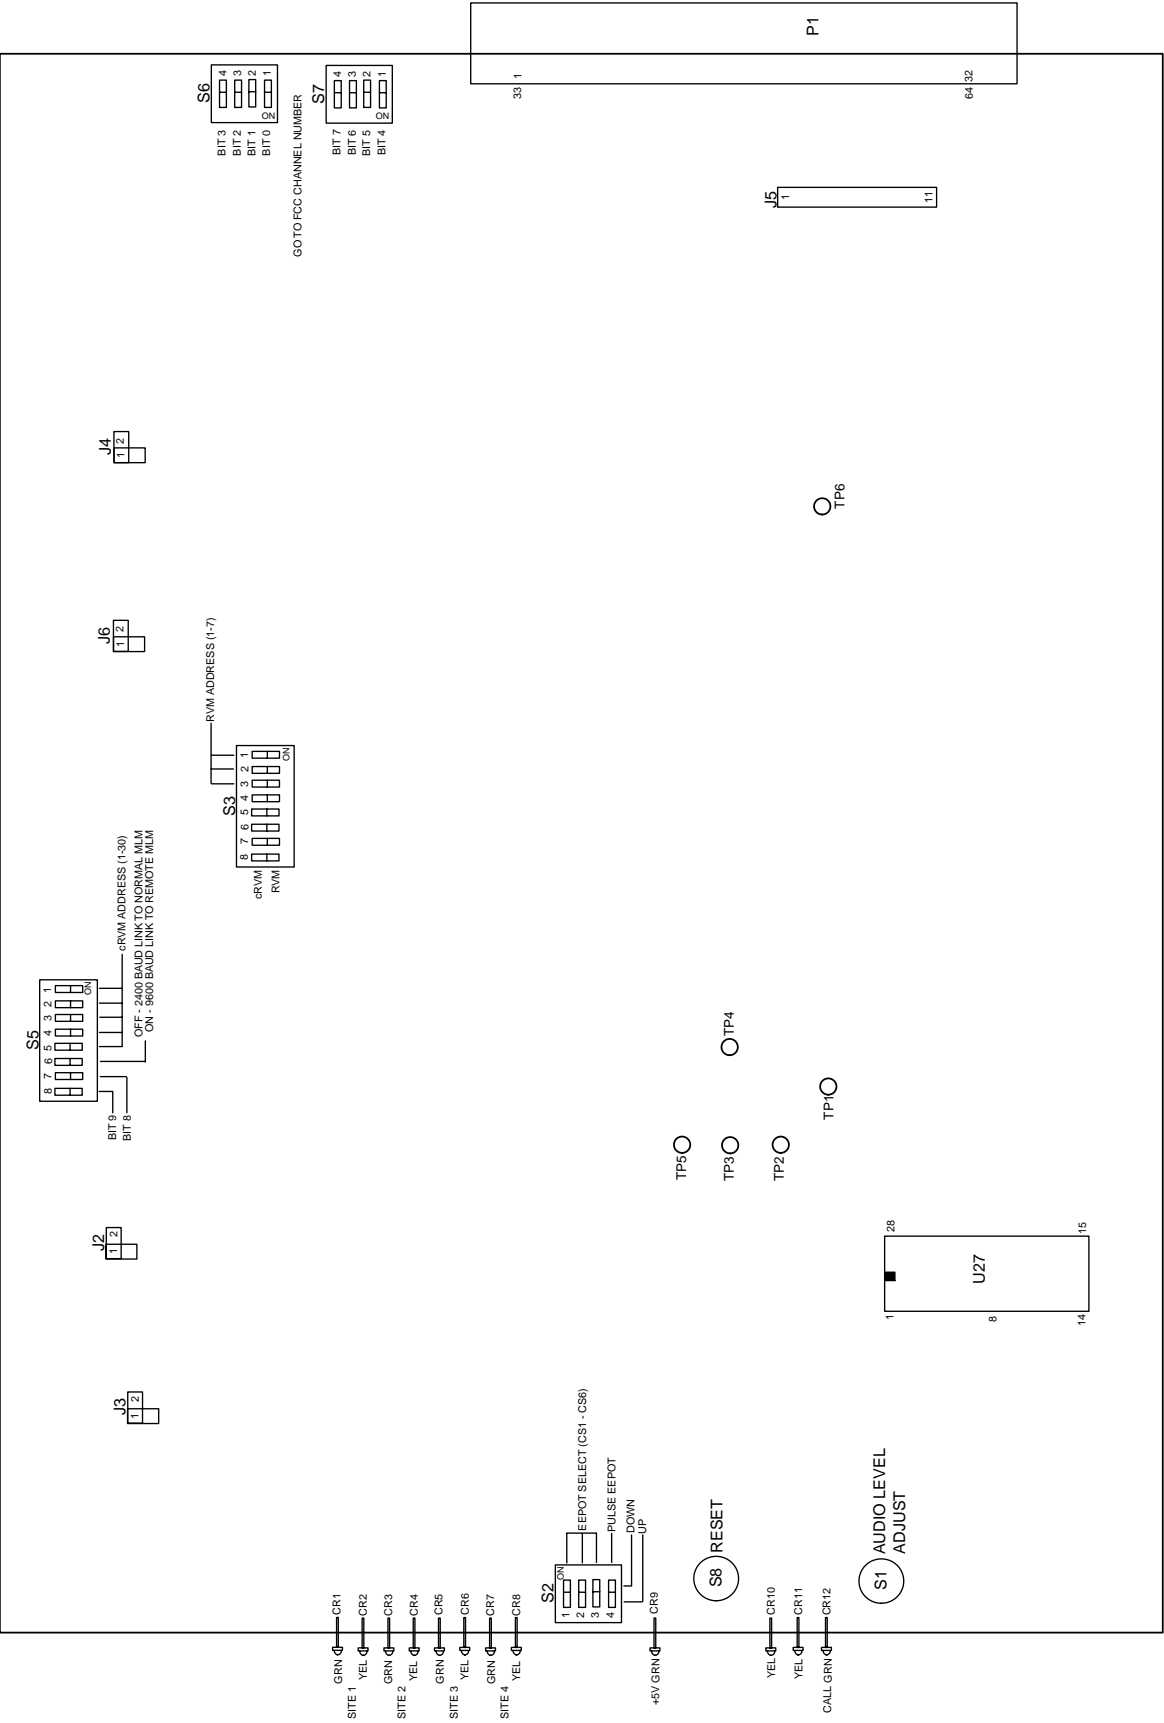

Figure 6-4 RVM ALIGNMENT POINTS
Refer to the RVM board alignment points diagram (Figure 6-4) and cRVM board alignment points diagram (Figure 6-5) for the location of switches and sections.
2. Place jumpers on J2, J3, J4 and J6 to enable alignment task (see Figure 6-4).